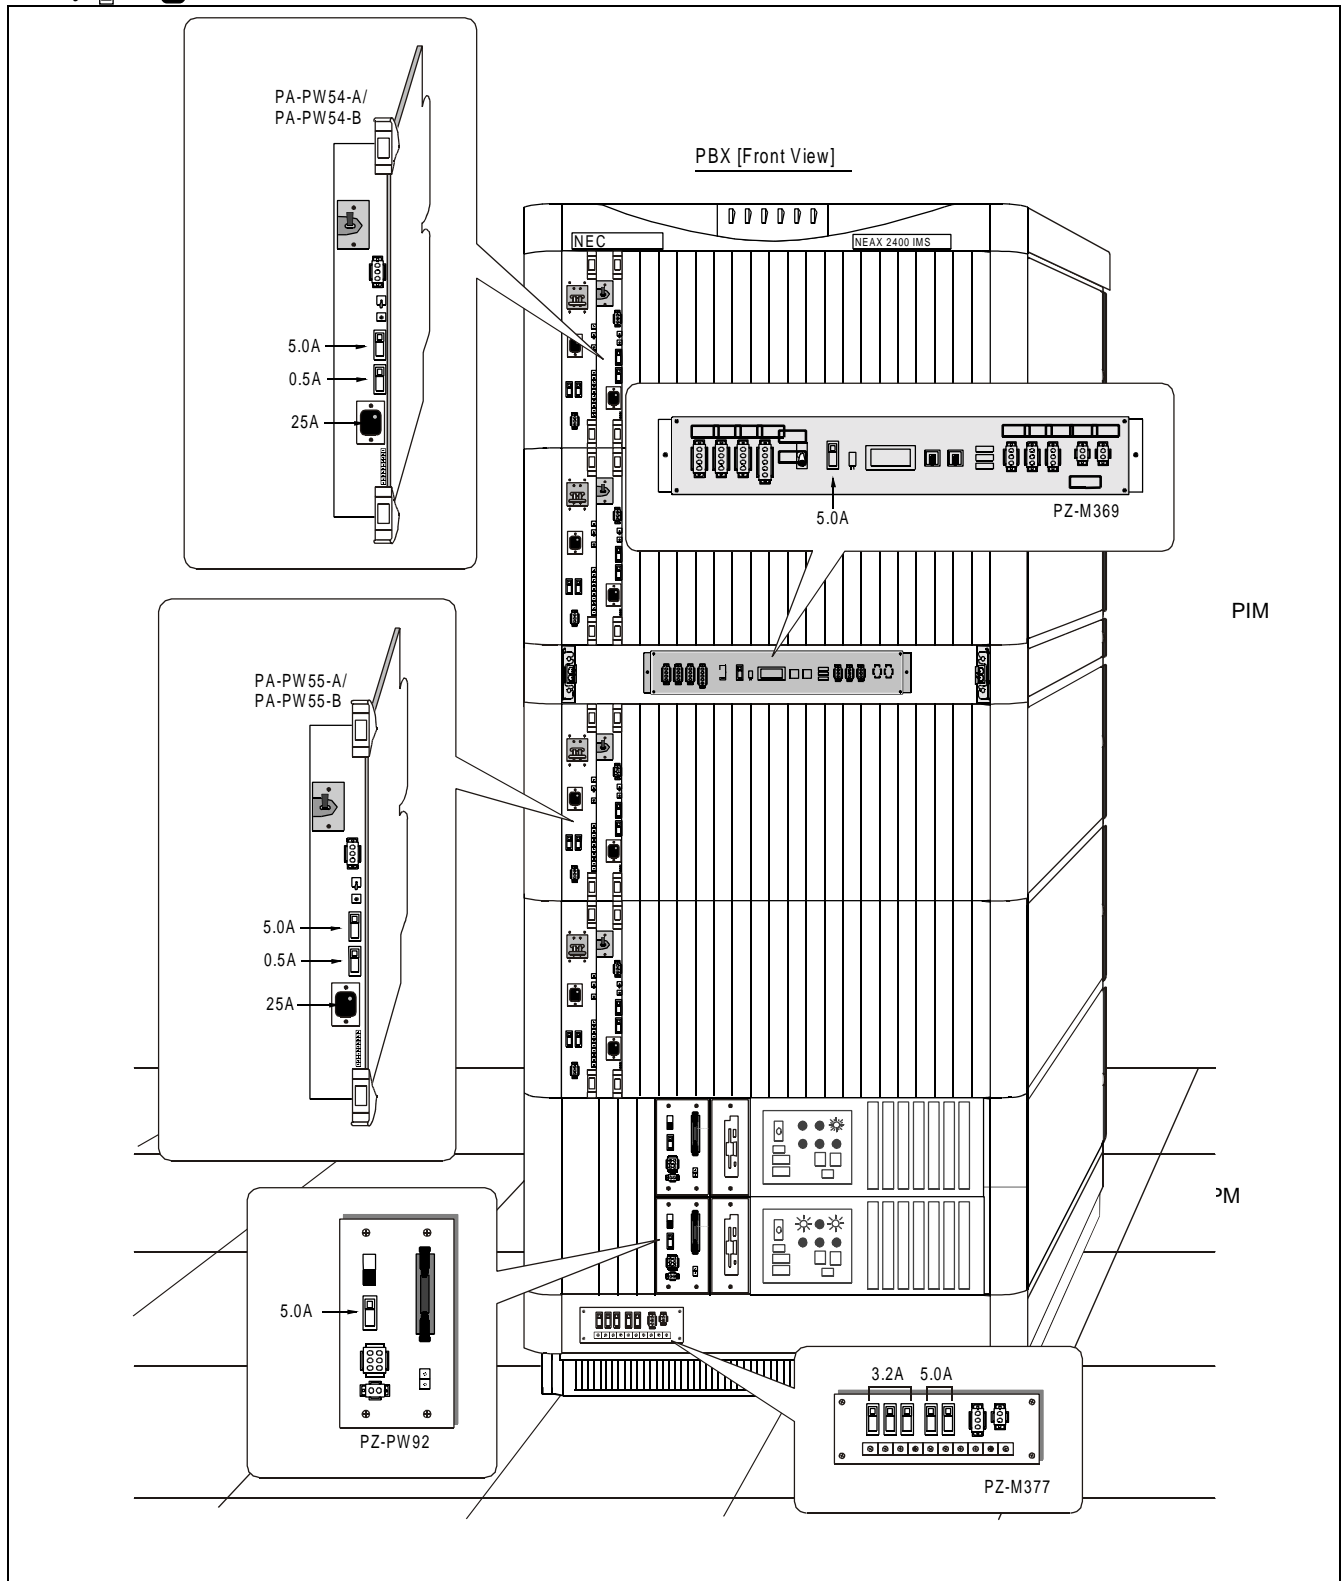
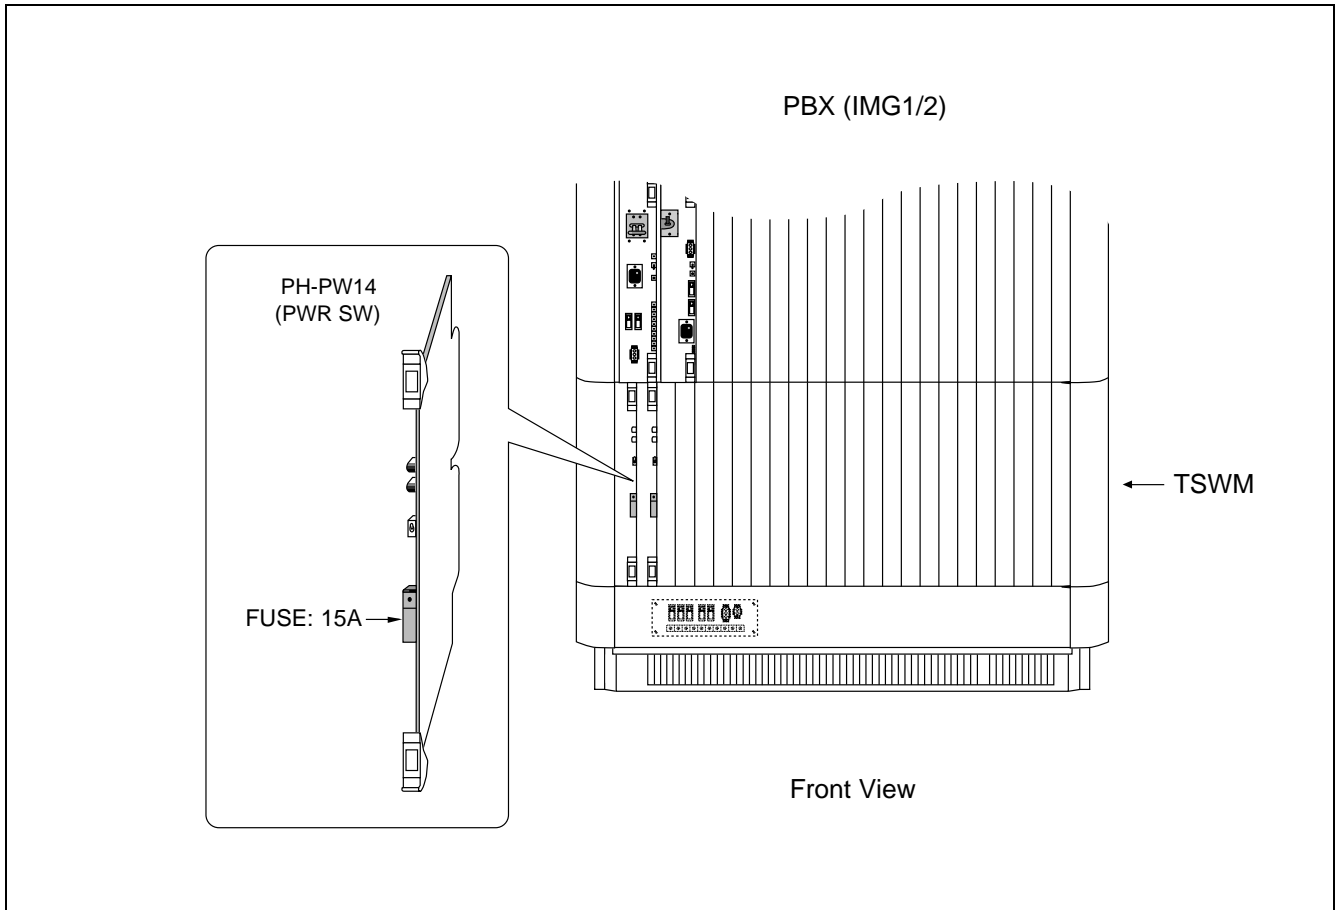

Figure 4-28 Fuse Locations in LPM/PIM/FANU/BASEU
Figure 4-29 Fuse Location on PWR SW Card (TSWM/ISWM)
- (1) Confirm the blown fuse via the system message [6-A] or MJ lamp on the top of IMG 0/ISW.
- (2) Replace the fuse with a new one, referring to Figure 4-28 and Figure 4-29.
In the TSWM, the fuse shown in Figure 4-29 is used for the PWR SW (PH-PW14) card, which is housed in Slot No. 00 and/or 01.